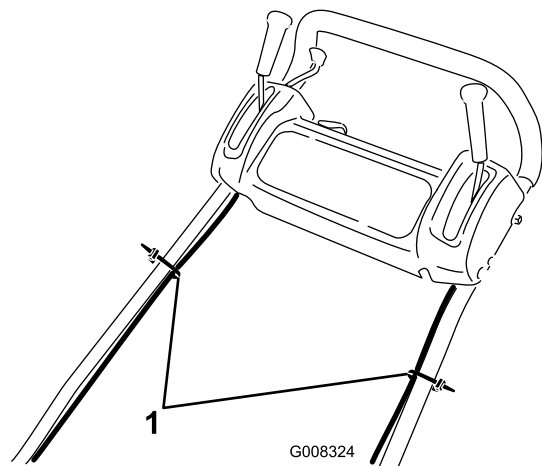

Figure 4
9. Secure the cables to the handle with cable ties (Figure 4).